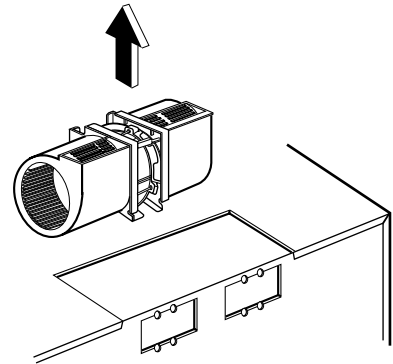

Figure 19-b
- (1) When mounting the door assembly to the oven assembly, be sure to adjust the door assembly parallel to the chassis. Also adjust so the door has no play between the inner door surface and oven frame assembly. If the door assembly is not mounted properly, microwaves may leak from the clearance between the door and the oven.
- (3) Carefully pull the ventilation motor ASS'Y out of the microwave oven. (See Figure 19-b)